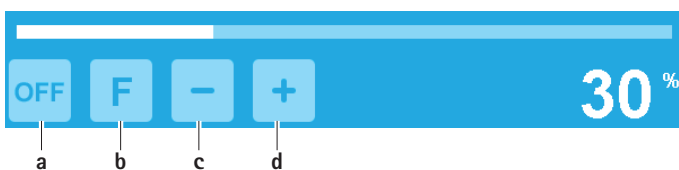

Fig. 7 Activating the irrigation pump/"Flush" function
- Activate the irrigation pump: Activate the button for switching on the irrigation pump **a**, see Fig. 7.
- Deactivate the irrigation pump: Activate the button for switching off the irrigation pump **a**, see Fig. 7.